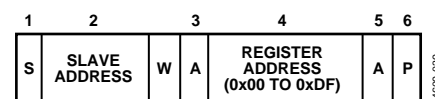

Figure 39. Setting a RAM Address for Subsequent Read
- To write a register address to RAM for a subsequent single byte read from the same address, or a block read or write starting at that address, as shown in Figure 39.